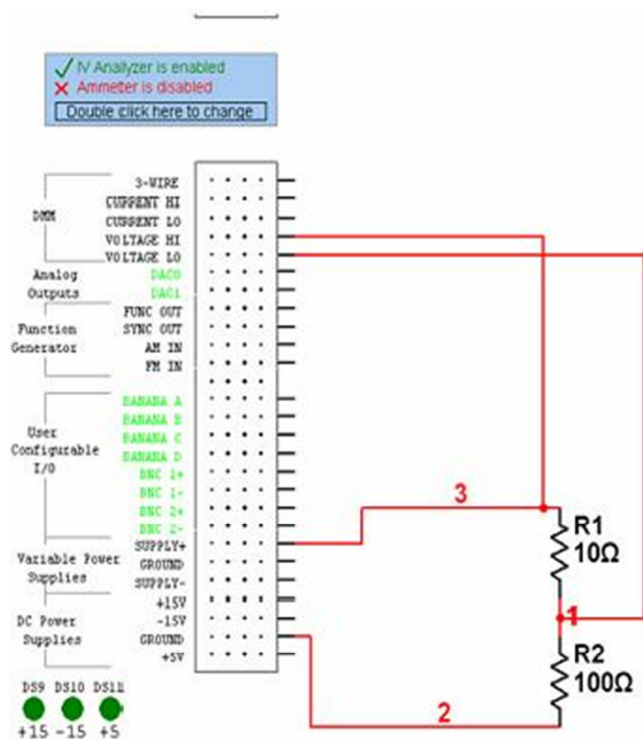

Figure 5
- Construct the circuit as shown in Figure 5.
- Complete the table below figure 5.